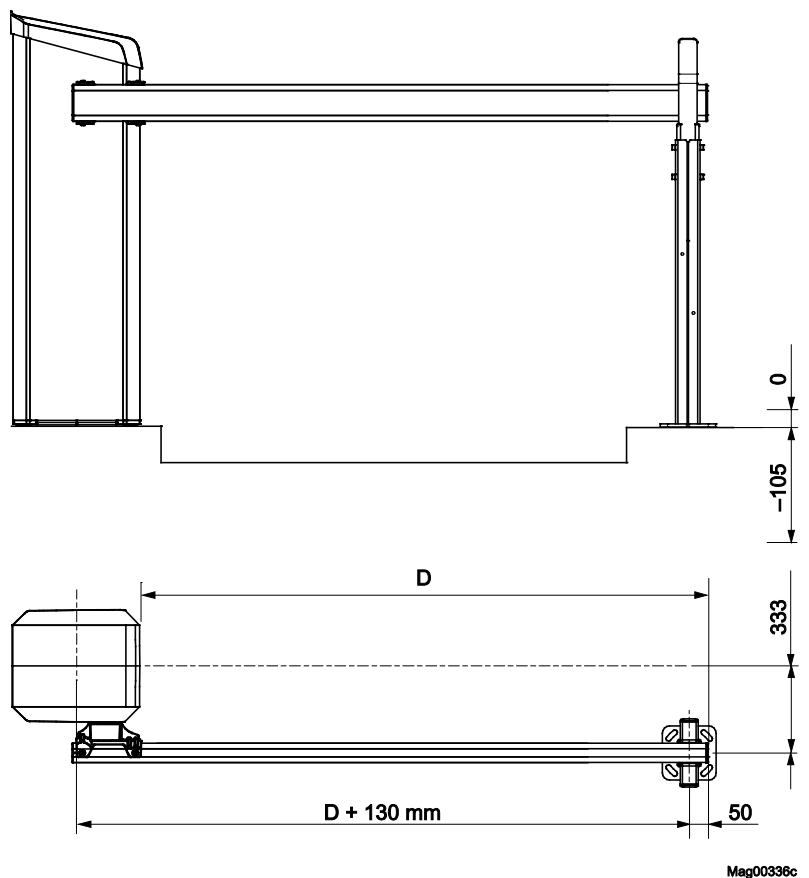

Fig. 14: Dimensions barrier housing – post (dimensions in mm)
- Place post centre at a distance of 50 mm from the barrier boom tip. → See page 51, Fig. 14.